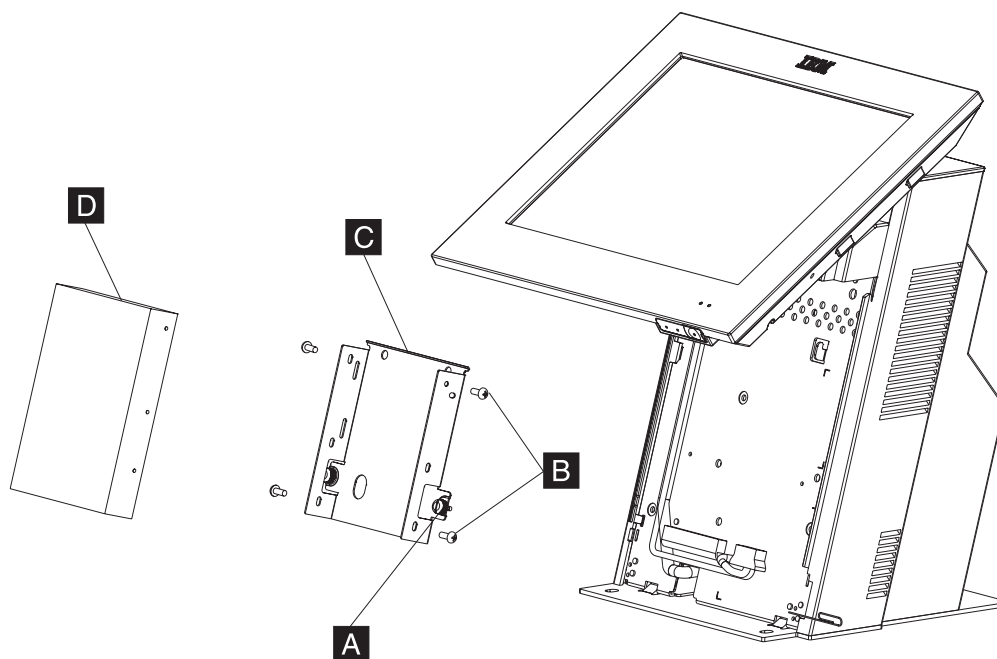

Figure 63. HDD replacement
4. Remove the HDD and bracket assembly by loosening the two thumbscrews **A** in Figure 63 and rotate the bottom of the HDD away from the frame.